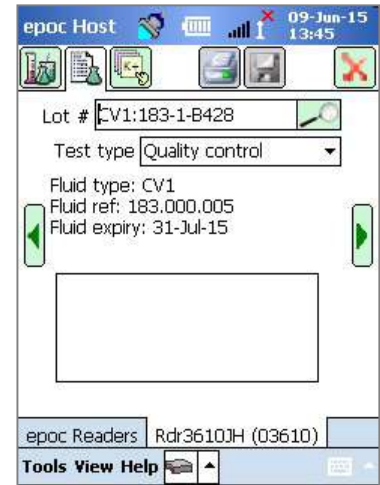

Fig. 16.
- b. Scan the appropriate VAD barcode into the Lot # field. The screen will automatically switch to the middle tab (Fig. 16) where the QA Fluid information will be shown.